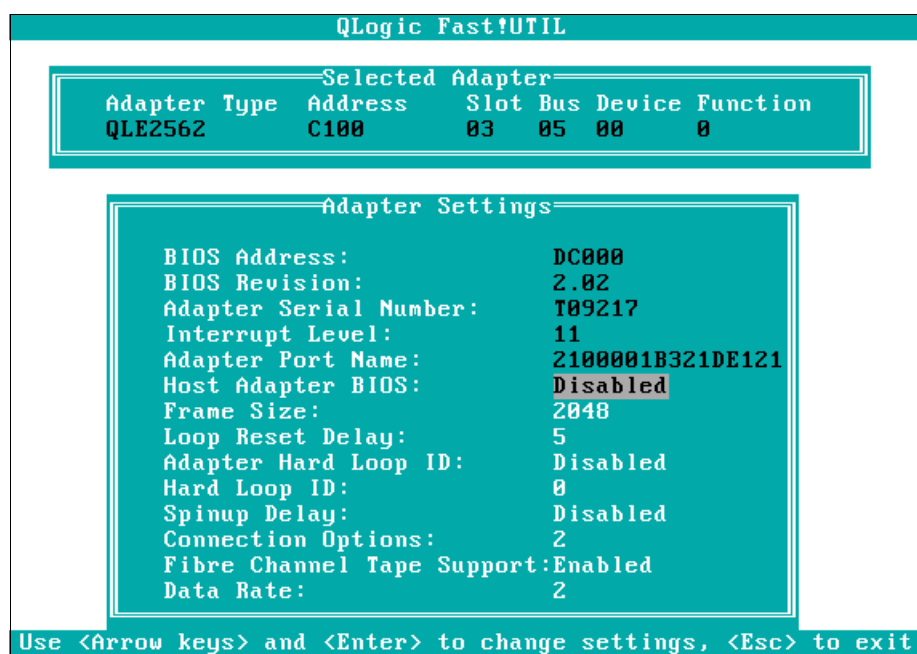

Figure 3-15 Note WWPN
7. Make a note of the Adapter Worldwide Port Name (WWPN), as shown in Figure 3-15.